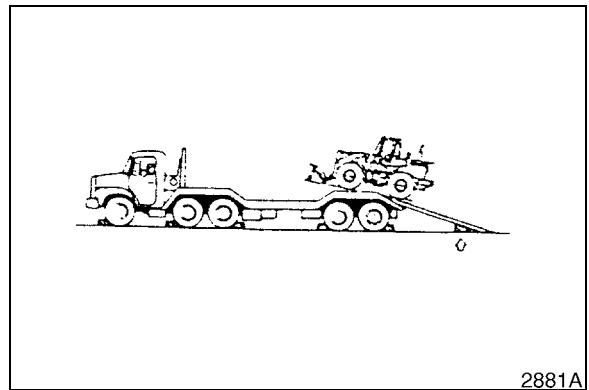

Figure 2
2. Use a ramp to load machine onto trailer (See Figure 2). Ramp should have an incline of from 10° - 15°.